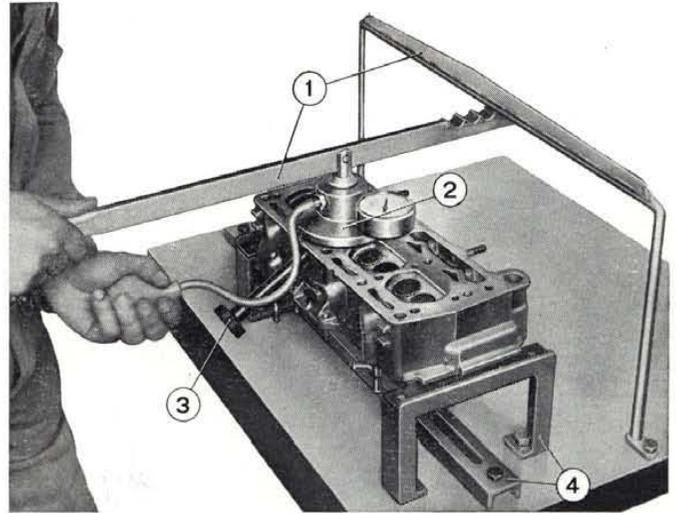

Fig. 102 - Valve seal test.
- arrange the cylinder head on tool A. 60041 (fig. 102);
- insert valves in guides and plug up spark plug seat by means of tool A. 60018 (fig. 102);
- position tester A. 60148 as shown in fig. 102;